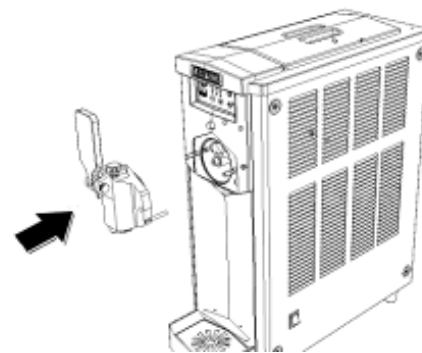

Fig. 61
- Refit the flange so that the locating pin mates with its seat (Fig. 61).